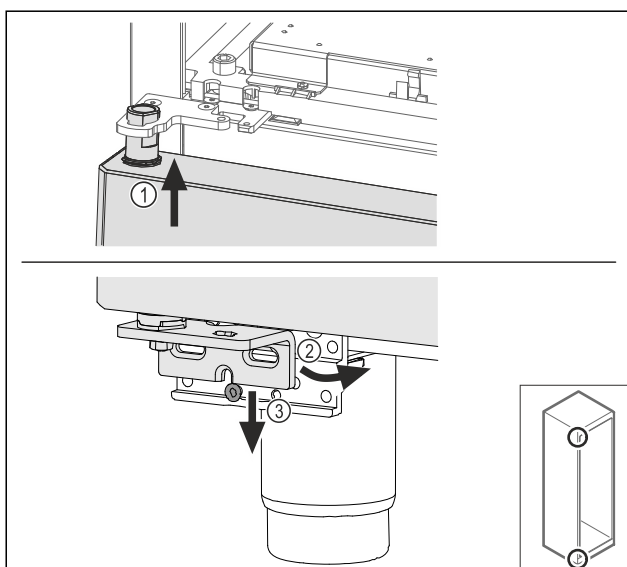

Fig. 60
- Insert the door slightly tilted at the top Fig. 60 (1), align the door straight Fig. 60 (2) and place it on the bottom of the swap bearing block screw Fig. 60 (3).